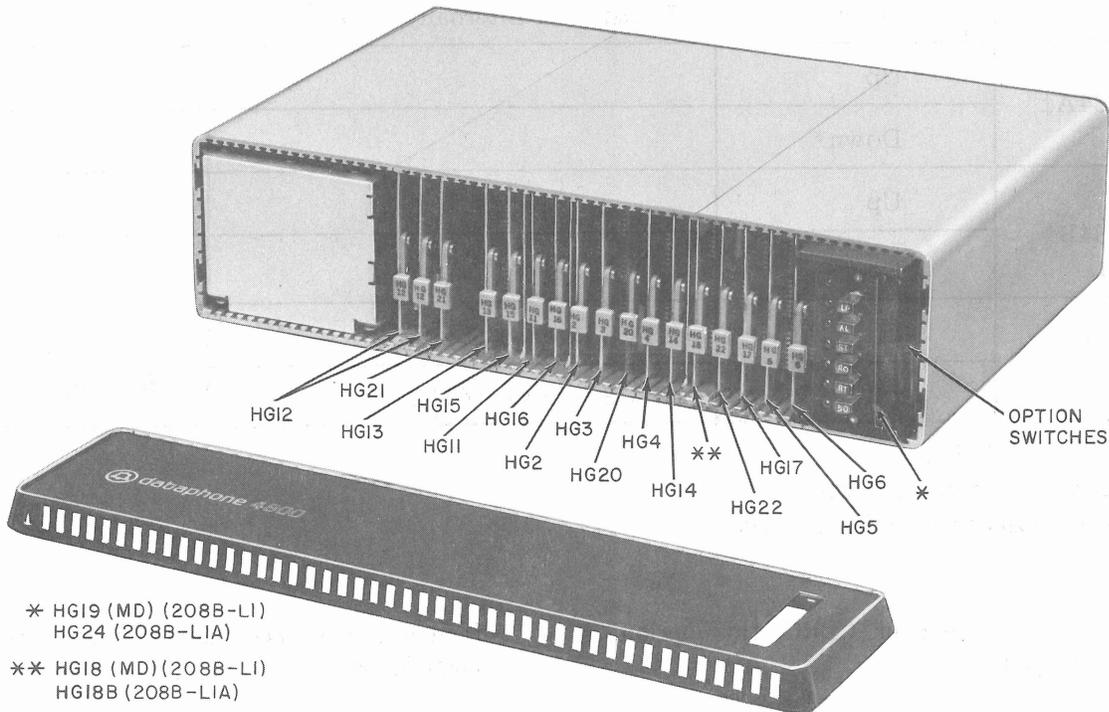

Fig. 10—Data Set 208B-L1 or -L1A—Front View With Cover Removed
**3.03** To gain access to the option switch panel and to the circuit packs, remove the front cover (Fig. 10 or 11) by gently squeezing it on